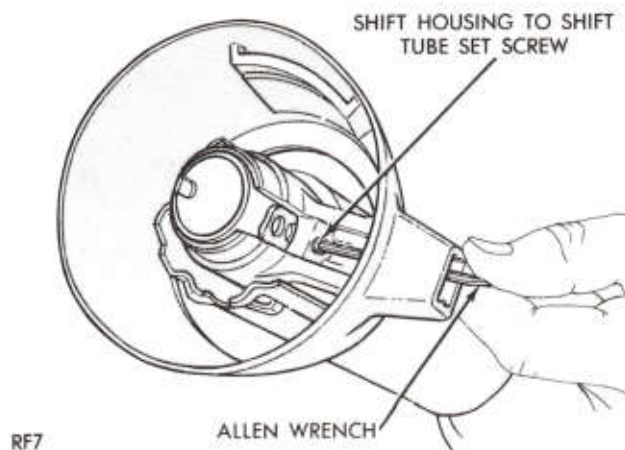

Fig. 13—Shift Tube Set Screw
Shift Tube (Figs. 13 and 14)
(1) To remove shift tube from column shift models, loosen shift tube set screw in shift housing (Fig. 13). Remove shift tube through the lower end of the jacket.
(2) Remove floor plate and grommet from jacket.